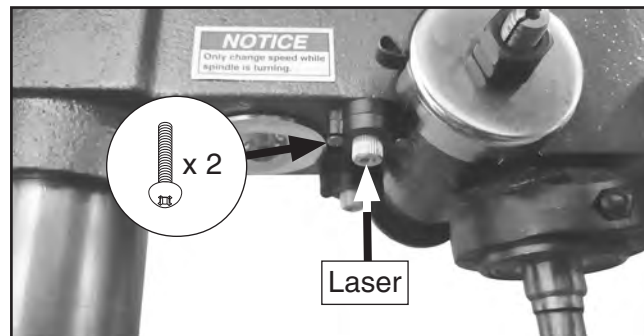
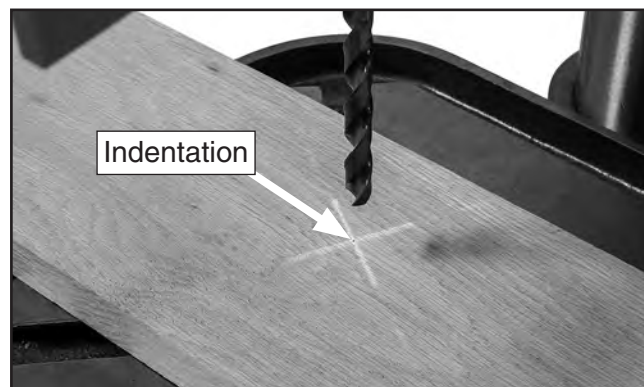

Figure 34. Laser adjustment components.
Figure 35. Crosshairs aligned with indentation on workpiece.
7. Loosen (2) Phillips head screws securing each laser seat then adjust lasers by hand (**Figure 34**), positioning them so crosshairs align with indentation you made earlier in surface of workpiece (see **Figure 35**).